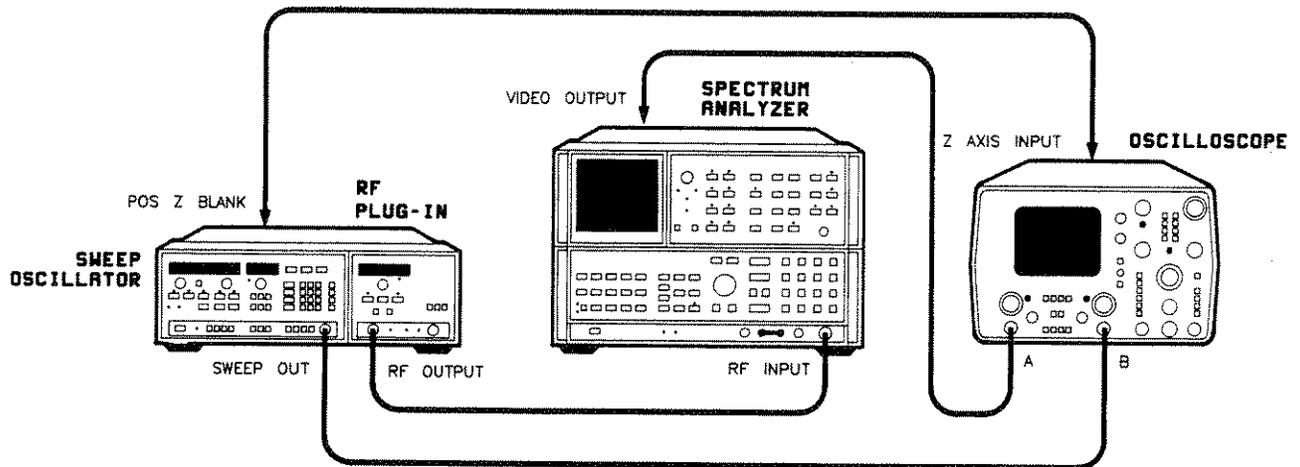

Figure 4-1. Frequency Range and Accuracy Tests Setup
1. Connect the equipment as shown in figure 4-1. Press **[INSTR PRESET]** on both the sweep oscillator and the spectrum analyzer. Allow the equipment to warm up for one hour.